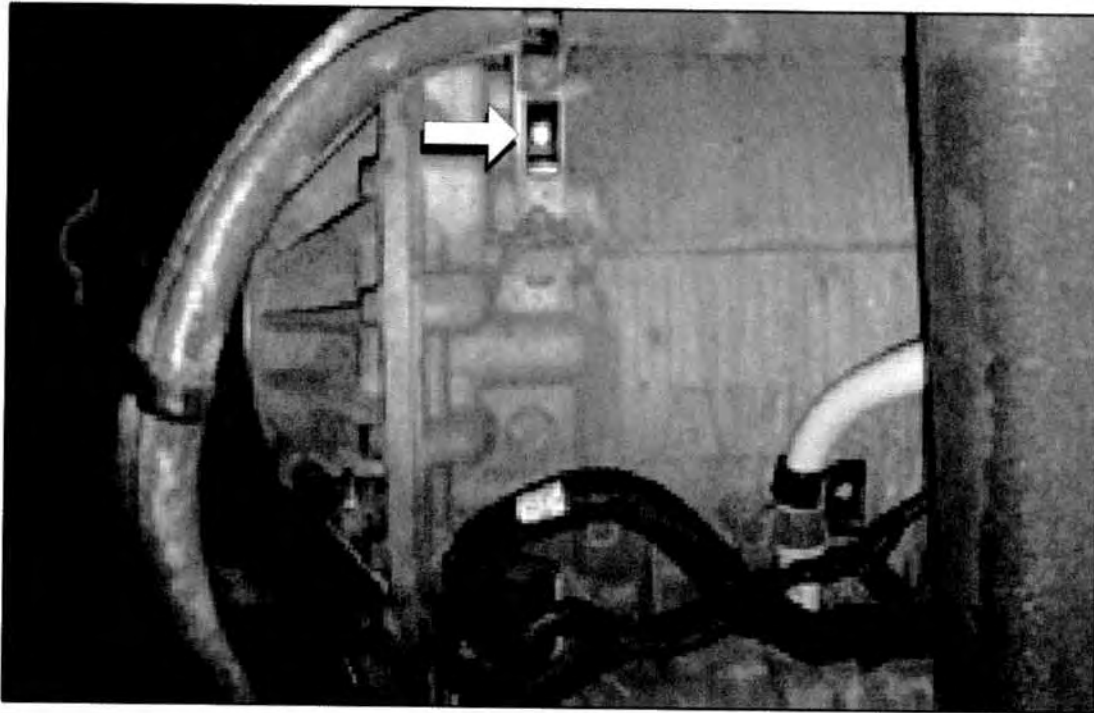

Figure 3. Tie base installation.
5. Orient and mount the tie base, p/n 07-08-4525, using hardware p/n's 19-1-825, 19-3-228, 19-02-6063 and 19-02-6035 at the locations shown in Figures 3, 4 and 5.